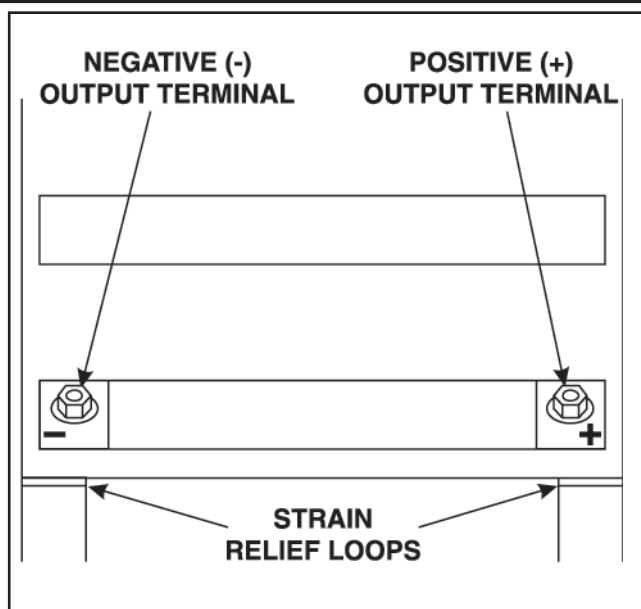

FIGURE A.6 - Output Terminals.
2. Locate the retractable strain relief loops directly below the output terminals in the lower right and lower left corners of the Case Front Assembly. See Figure A.6.